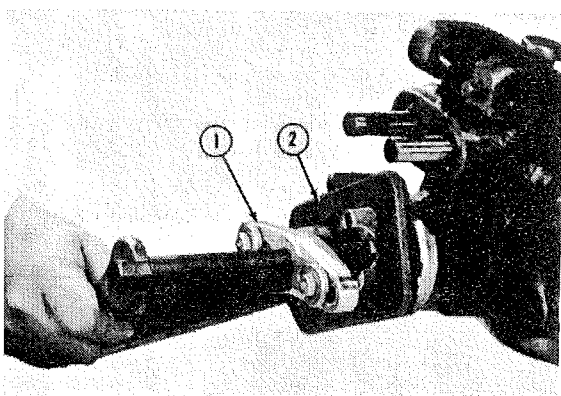

FIG. 115—UNIVERSAL JOINT FLANGE PULLER
a. Remove the companion flange nuts (44) and washers (45) using Yoke Holding Wrench C-3281. Remove rear output shaft companion flange (1) with brake drum (2) and front output shaft yoke (26) as shown in Fig. 115, using Tool W-172.
b. Remove the cover bolts (39), lock washers (38), and bottom cover (68).
c. Remove the lock plate bolt (9), lock washer (10), and lock plate (14).
d. Drive intermediate gear shaft (63) to the rear of the case with a brass punch. Do not lose the thrust washers (40) and (64) located at each end of the intermediate gear shaft (63).
- e. Remove the intermediate gear (41), two thrust washers (40) and (64), needle bearings (61), and bearing spacers (62) through the bottom of the case.
- f. Remove the poppet plugs (17), springs (18), and balls (19) on both sides of the front bearing shaft cap (22). Shift the front wheel drive shaft (31) to engaged position (shaft forward).
- g. Remove the bolts (29) and lock washers (30) holding the front bearing cap. Remove the cap as an assembly including the clutch shaft, bearing, clutch gear, fork, and shift rod. Use care not to lose the interlock (20) which floats between the shift rods.
- h. Remove the bolts (72) and lock washers (71) that secure the backing plate of the emergency brake (3) and rear bearing cap (7) with the speedometer gear assembly. Remove the entire unit as an assembly.